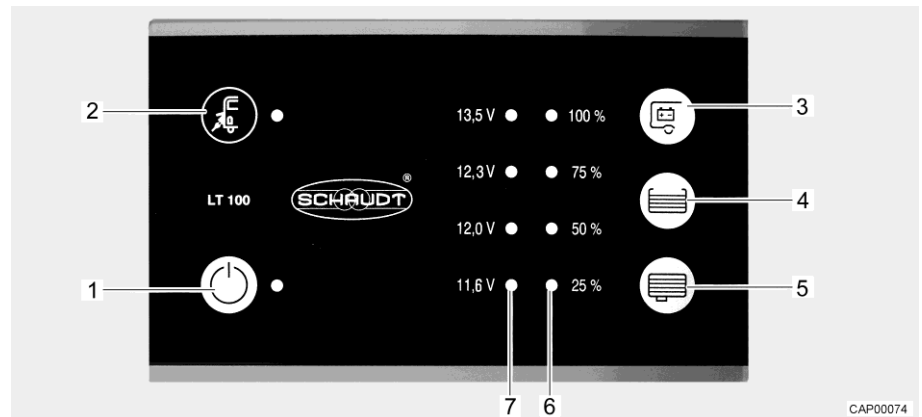

Fig. 71 Panel (LT 100)
The yellow LED at the mains connection symbol "⚡" (Fig. 71,2) is lit when the vehicle is connected to an external mains supply. In this case, the LED will also be lit when the panel is switched off.
The 12 V main switch (Fig. 71,1) switches the panel and the 12 V power supply of the living area on and off.
- Press switch "⏻" (Fig. 71,1): The 12 V living area power supply is switched on. The LED lights up green.
- Press switch "⏻" (Fig. 71,1) again: The 12 V living area power supply is switched off. The LED goes out.
The LED array (Fig. 71,7) displays the battery voltage of the living area battery as follows:
- Press the button " " (Fig. 71,3): The battery voltage of the living area battery is displayed.
The LED array (Fig. 71,6) displays the fill level of the fresh water tank or of the waste water tank.
Press the button "☰" (Fig. 71,4): The fill level of the fresh water tank is displayed by lit LEDs.
Press the button "☰" (Fig. 71,5): The fill level of the waste water tank is displayed by lit LEDs.